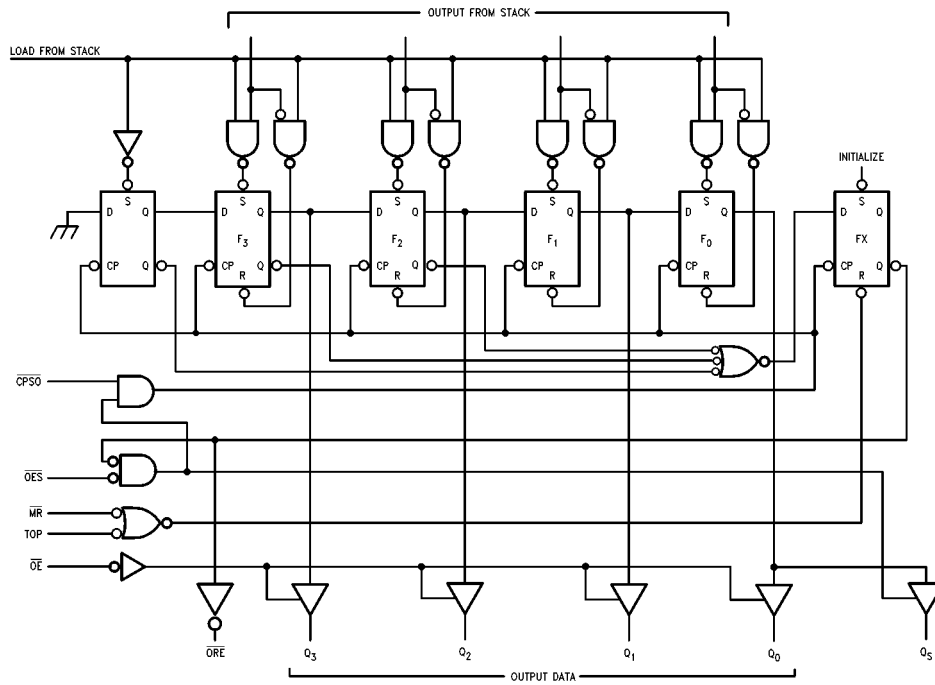

FIGURE 3. Conceptual Output Section
The Output Register receives 4-bit data words from the bottom stack location, stores it and outputs data on a 3-STATE 4-bit parallel data bus or on a 3-STATE serial data bus. The output section generates and receives the necessary status and control signals. Figure 3 is a conceptual logic diagram of the output section.
**Serial Data Extraction**— When the FIFO is empty after a LOW pulse is applied to  $\overline{MR}$ , the Output Register empty ( $\overline{ORE}$ ) output is LOW. After data has been entered into the FIFO and has fallen through to the bottom stack location, it is transferred into the Output Register provided  $\overline{TOS}$  is LOW and  $\overline{TOP}$  is HIGH. As a result of the data transfer  $\overline{ORE}$  goes HIGH indicating valid data in the register. The 3-STATE Serial Data Output,  $Q_5$ , is automatically enabled and puts the first data bit on the output bus. Data is serially shifted out on the HIGH-to-LOW transition of  $\overline{CPS0}$ . To prevent false shifting,  $\overline{CPS0}$  should be LOW when the new word is being loaded into the Output Register. The fourth transition empties the shift register, forces  $\overline{ORE}$  output LOW and disables the serial output,  $Q_5$  (refer to Figure 3). For serial operation the  $\overline{ORE}$  output may be tied to the  $\overline{TOS}$  input, requesting a new word from the stack as soon as the previous one has been shifted out.